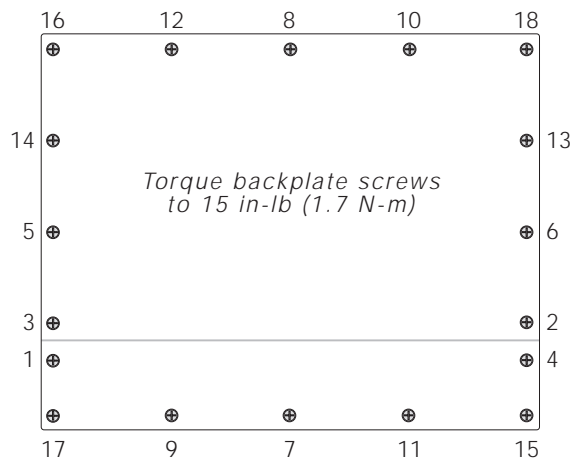

Figure 3. 920i Enclosure Backplate
10. Position the backplate over the enclosure and reinstall the backplate screws. Use the torque pattern shown in Figure 3 to prevent distorting the backplate gasket. Torque screws to 15 in-lb (1.7 N-m).